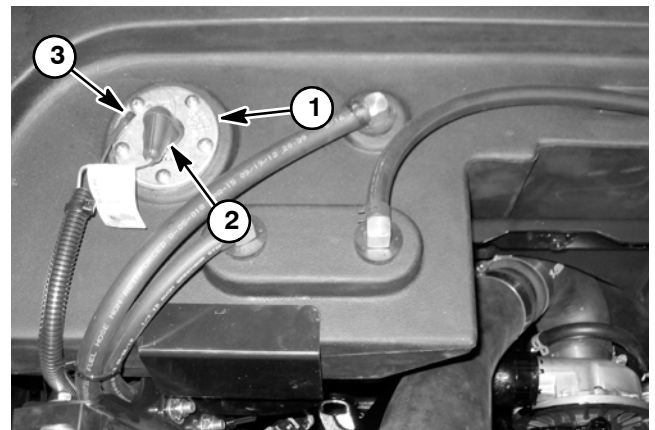

Figure 77
Two (2) styles of fuel senders have been used on Groundsmaster 4100-D and 4110-D machines. Early production machines are equipped with a pivoting float design that has two (2) wire harness terminals (shown in Fig. 77). Later machines have a sliding float design and a single harness connector.